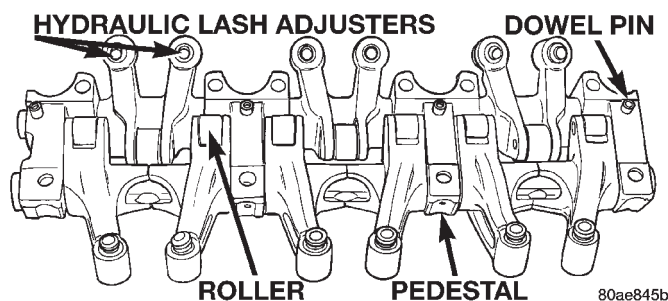

Fig. 56 Assemble Rocker Arms and Shaft
(2) Install dowel pins (Fig. 56). Dowel pins pass through the pedestal into the exhaust rocker shafts. Dowel pins should be pressed in until they bottom-out against the rocker shaft in the pedestal.